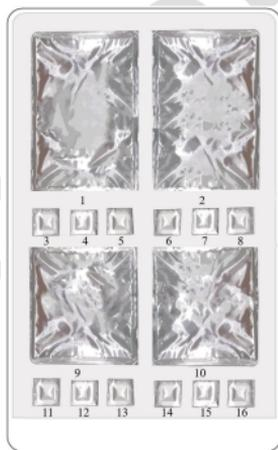

Figure 9-2: DNBSEQ-T7RS Washing Cartridge 1
- DNBSEQ-T7RS washing cartridge 1: A clean and empty sequencing cartridge (see Figure 9-2).